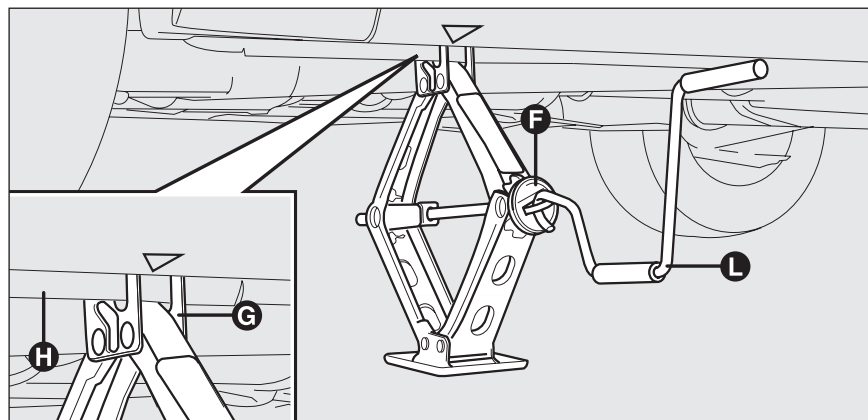

fig. 4
- ☐ operate the device **F-fig. 4** to extend the jack until the top of the jack **G-fig. 4** fits correctly into catch **H-fig. 4**;
- ☐ fit the handle **L-fig. 4** to operate the jack and lift the car until the wheel to be changed is several centimetres off the ground;
- ☐ turn the jack handle **L-fig. 4** to lower the car and remove the jack;